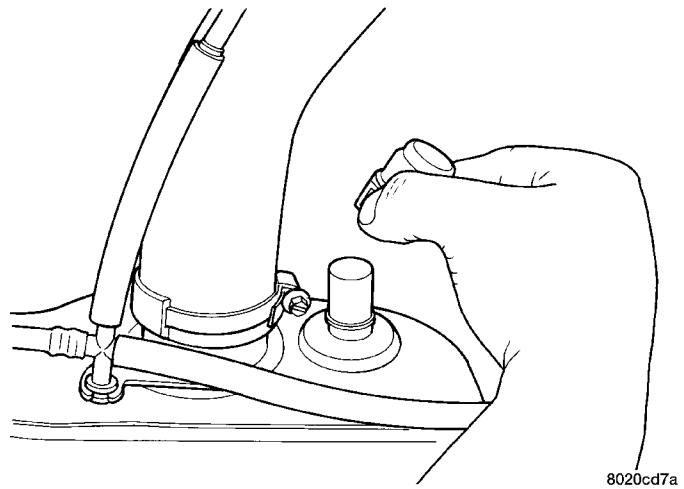

Fig. 13 Drain Port Location
- (1) Remove fuel filler cap.
- (2) Perform the Fuel System Pressure Release procedure.
- (3) Disconnect negative cable from battery.
- (4) Raise vehicle on hoist.
- (5) Remove quick connect cap from drain port. The drain port is located on rear top of fuel tank. Push a siphon hose into the drain port (Fig. 13).
- (6) Drain fuel tank into holding tank or a properly labeled **Gasoline** safety container.